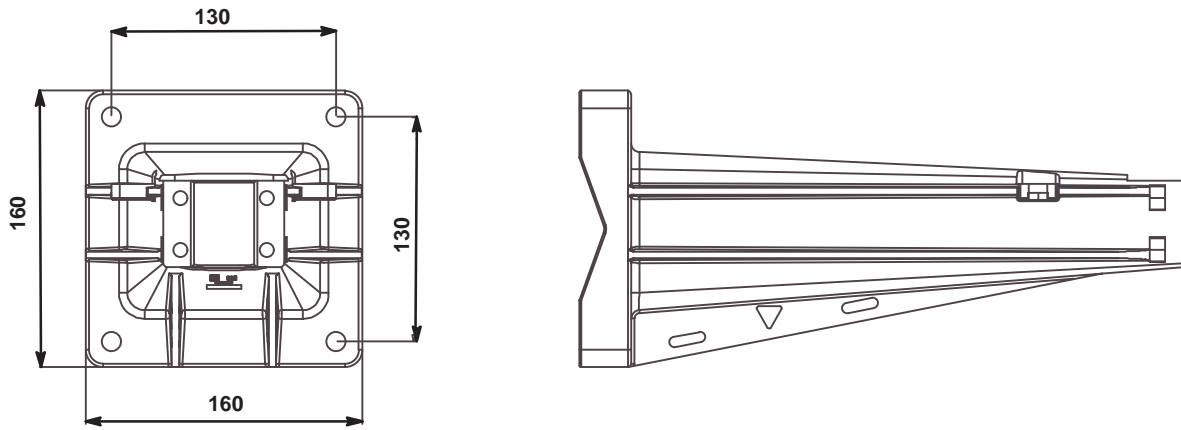

Figure 12 – Direct wall mounting.
- Wall mounting possible with or without wall plate: see figures 12 and 13.